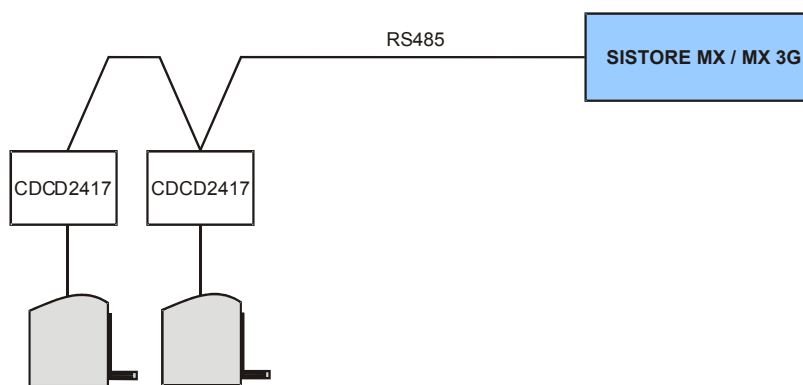

Fig. 22 Controller CDCCD2417 – system overview
1. Connect the pan-and-tilt units via controller CDCD2417 to the RS485 port (COM2) of the SISTORE (see Fig. 22).